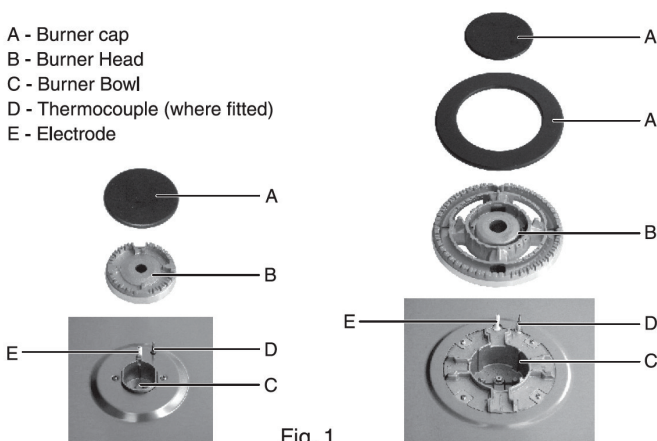

Fig. 1
- Open the door to the full extent (fig.1)